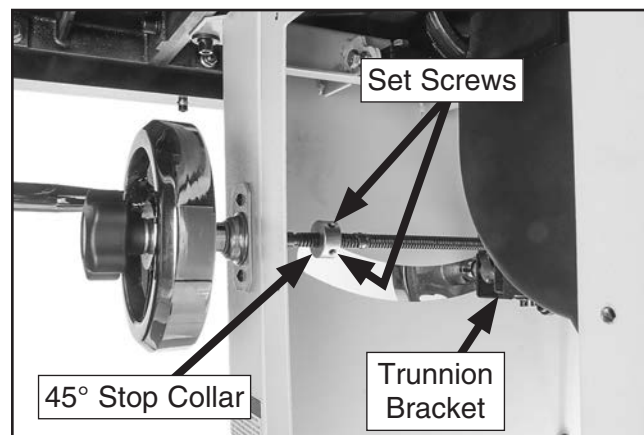

Figure 106. Location of 45° stop collar (right access cover removed).
- Open right access cover, loosen set screws on 45° stop collar (see **Figure 106**), then turn collar one turn away from trunnion bracket. This will allow you to adjust blade to exactly 45° in next step.